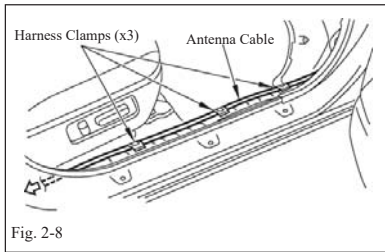

Fig. 2-8
(1) Route cable next to factory harness. (Fig. 2-8)